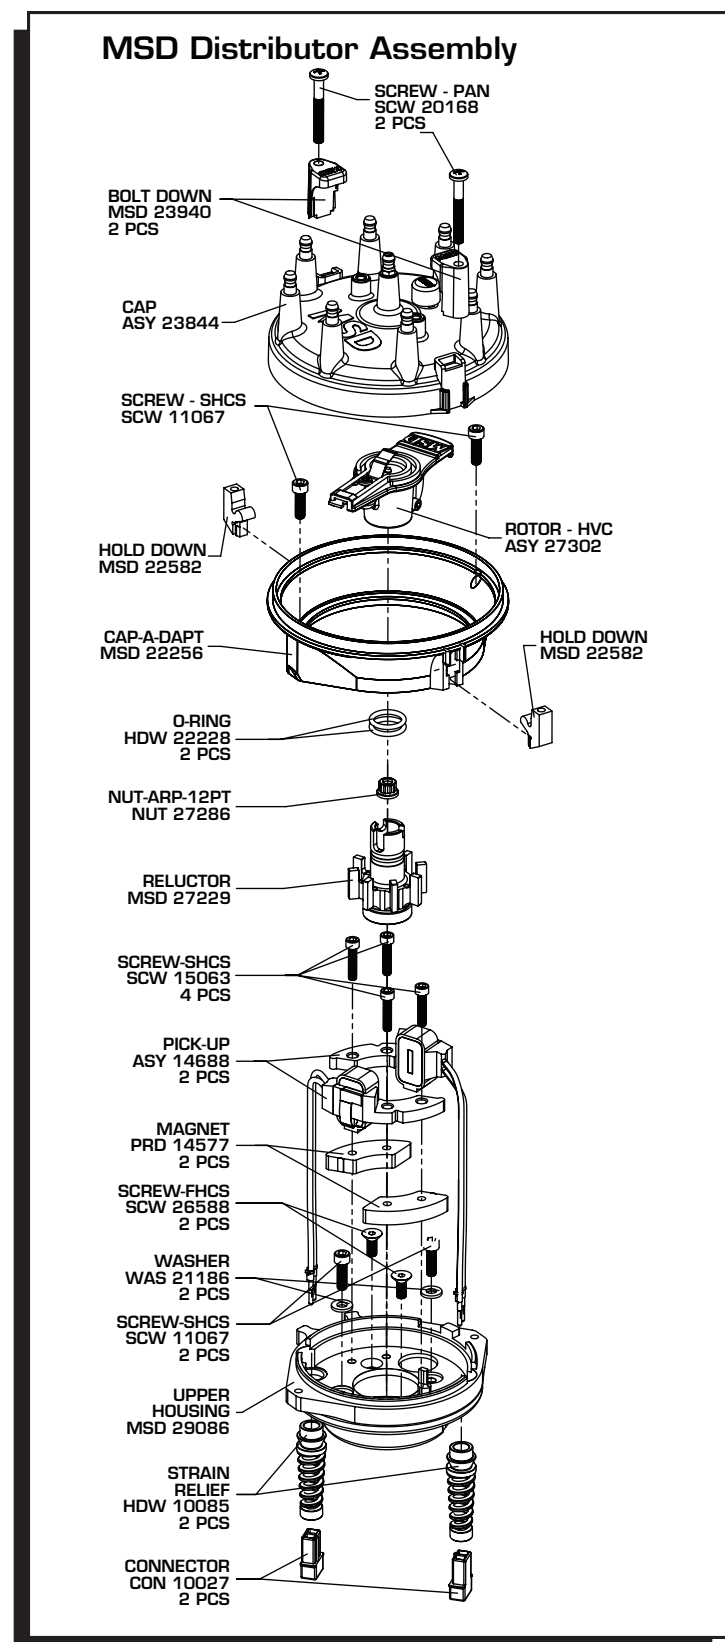

Figure 5 Upper Housing Exploded Views.
To replace the distributor bearings and seals, the lower housing must be disassembled. Both disassembly and re-assembly require the lower housing to be heated for proper clearance. Review the following procedure before starting the service. Figures 5 and 6 show exploded views of the four distributors available.
15. Install reluctor using special tool PN 83492. Apply moly lube to the nut and torque to 10 lb-ft. (Figure 5).